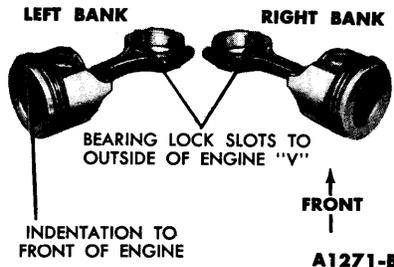

FIG. 64—Connecting Rod and Piston Assembly
1. Lubricate all parts with light engine oil. Position the connecting rod in the piston and push the pin into place. Assemble the piston and connecting rod as shown in Fig. 64.